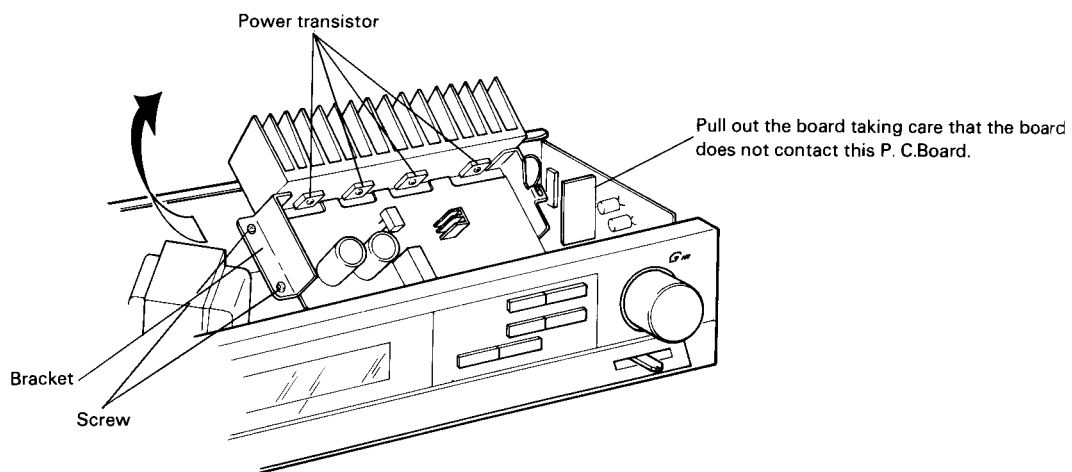

Fig. 4
3. Pull out the main P. C. Board in the direction of the arrow shown in Fig. 4, taking care that the board does not contact P. C. Board.